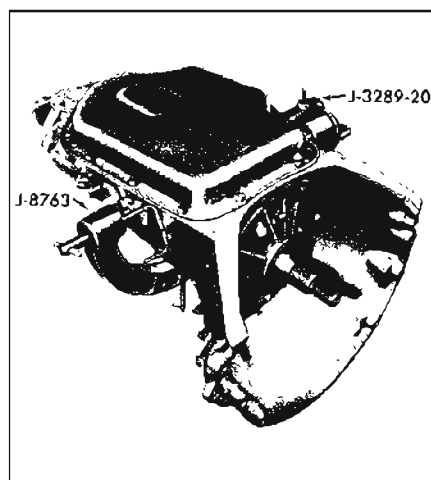

Figure 5-500
3. Install fixture and transmission into holding Tool Base, J-3289-20, with bottom pan facing up. See Figure 5-500.